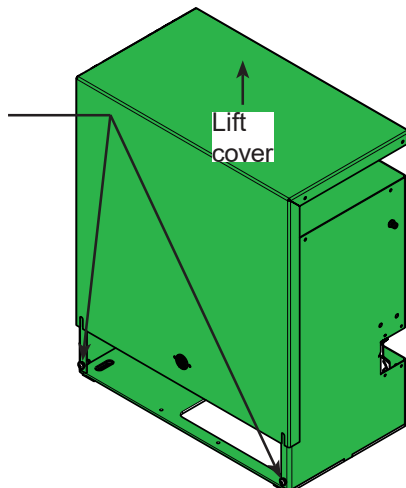

Figure 1. Remove the Cover
1. Remove the cover (Figure 1).